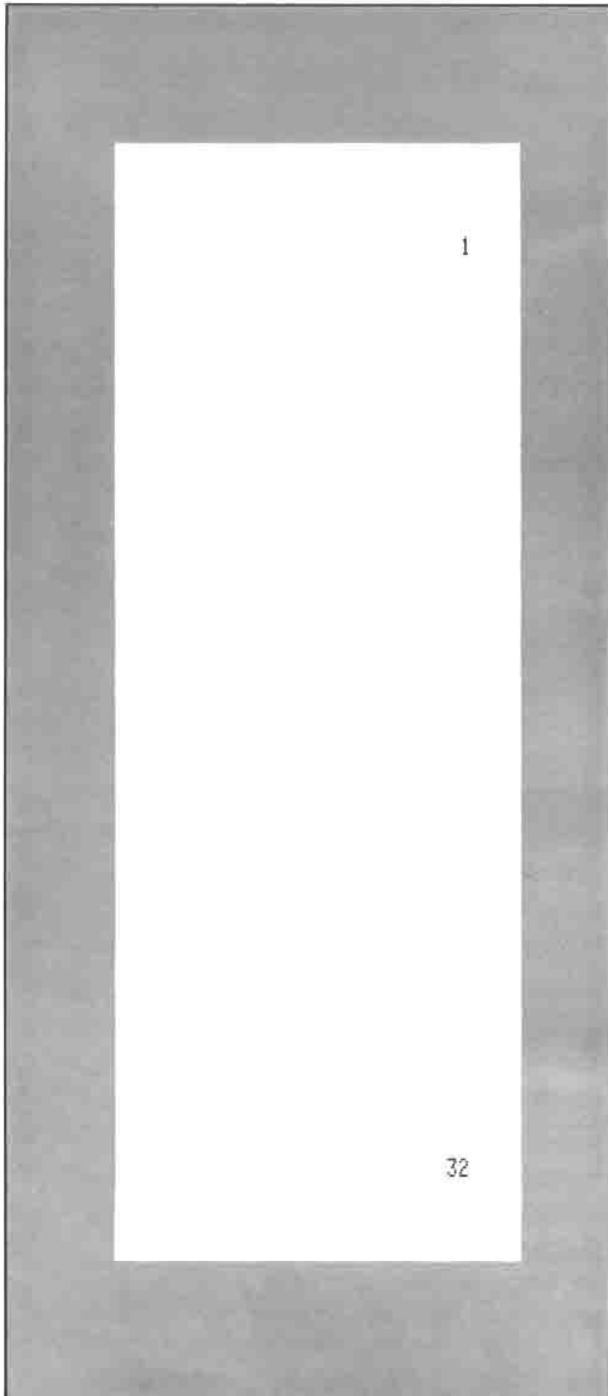

Figure 4-4. End-of-Line Test Output
- A **1** followed by 30 blank lines and **32** indicates proper operation. Refer to figure 4-4 for the proper output spacing.